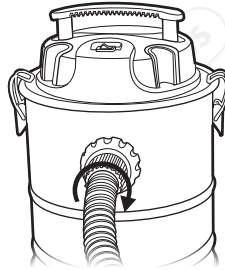

Fig 1.
To assemble the Ash Vacuum, insert the screw end of the Flexible Hose (3) into the Vacuum Inlet (10). To insert, align the notches and twist to secure into position Fig 1.